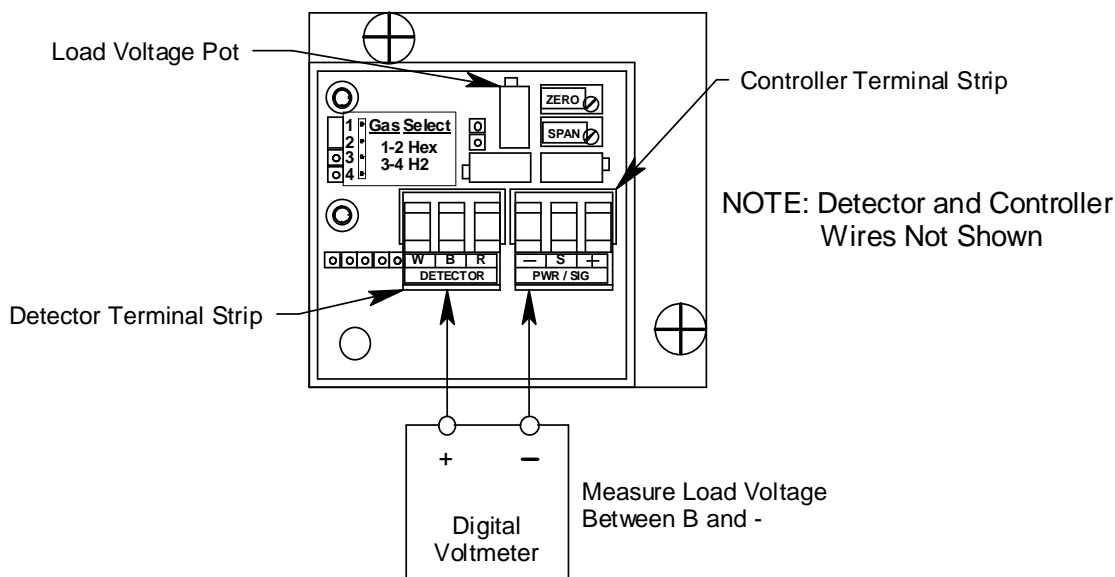

Figure 5: Load Voltage Measurement
7. Install the detector and controller terminals strips into their sockets on the new amplifier. See Figure 1 on page 5 or Figure 5 on page 22 for the location of these terminal strips. If controller leads or detector leads were removed during this procedure, refer to Figure 4 on page 12 for wiring connections.
4. Remove the screw, flat washer, and lock washer retaining the amplifier plate to each of the two mounting standoffs, then carefully lift the amplifier plate to gain access to the amplifier's load voltage adjustment pot. See Figure 5 below for the pot location.
16. Measure the voltage between the **B** terminal on the detector terminal strip and the - (negative) terminal on the controller terminal strip as shown below in Figure 5.